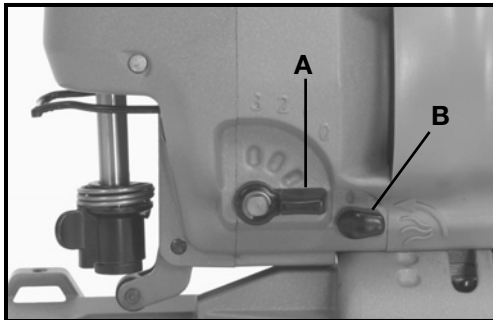

Fig. 6
2. Gently squeeze the switch trigger until the blade shaft moves slowly and stop the motor when the blade shaft is at or near the bottom of its stroke, Fig. 6.
The blade orbit may be varied by turning knob (A), Fig. 6, to any of four positions indicated by the numbers "0" through "3", with "0" producing no orbit and "3" producing maximum orbit. The orbit may be adjusted with or without the motor running. Move knob (A), Fig. 6, to the detent in the housing corresponding to the number on the housing. The knob is shown in position "0". The straight up and down position would be setting "3". Metal cutting should be performed in orbit setting "0".
This saw is equipped with a chip blower to keep the cutting area free of chips. Use knob (B), Fig. 6, to turn the chip blower on and off. The knob is shown in the off position. To turn the chip blower on, turn the knob counterclockwise until it stops.